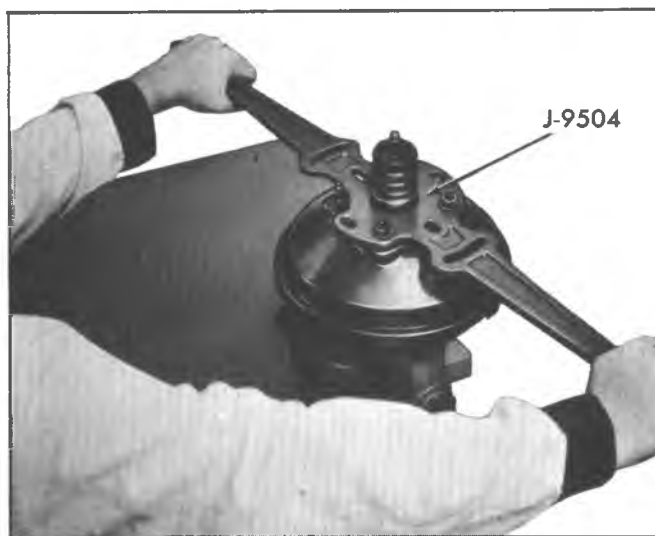

Fig. 3A--Separating Housings with Tools J-9504 and J-22805
- a. **Straight Mounting Bracket (Fig. 3A)** - Place Spanner Wrench J-9504 over studs on rear housing and attach with nuts and washers. Draw nuts down tight to eliminate bending or damaging of studs.